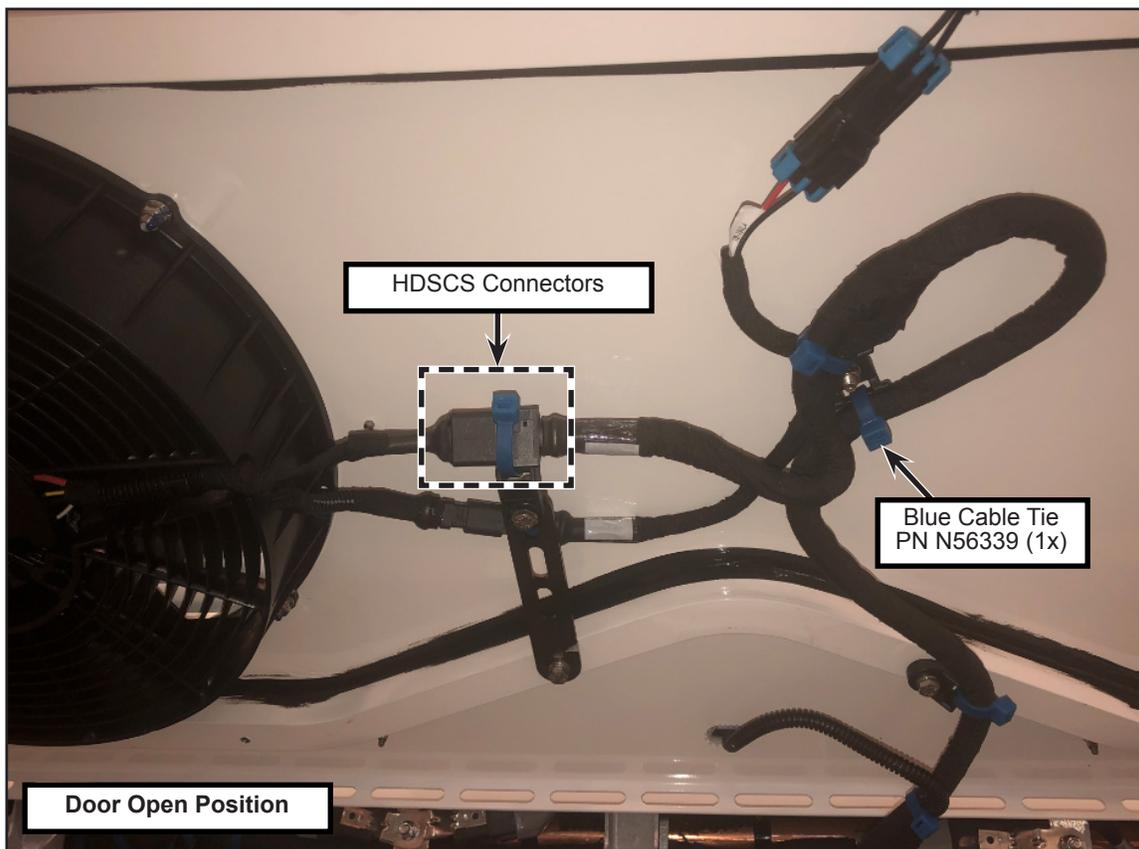

Figure 12 - Final Installation Showing HDSCS Connectors Replacing DTP Connectors
- 1.27. Secure the wiring at harness side with the middle door tie-mount using a blue cable tie PN N56339 (1x) (see figure 12).